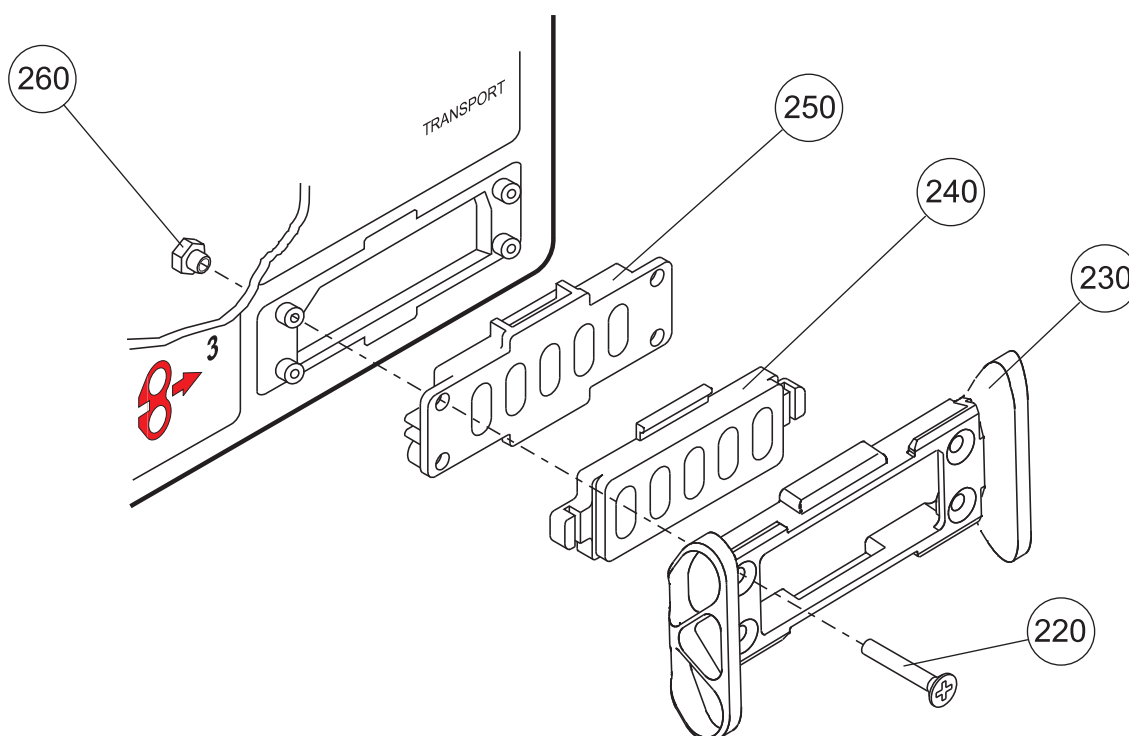

Figure 50 - Replacing the CPR Manifold Gasket
29.1 Carefully remove the screws (Fig 50, Item 220).
29.2 Remove the manifold outer (Fig 50, Item 230) and the manifold gasket (Fig 50, Item 240). The manifold inner (Fig 50, Item 250) will remain connected to the hoses inside the CPR Unit.
29.3 Install the new manifold gasket (Fig 50, Item 240) and the manifold outer (Fig 50, Item 230) to the manifold inner (Fig 50, Item 250).
29.4 Carefully install the screws (Fig 50, Item 220). Make sure the screws are correctly threaded into the brass inserts before applying pressure to tighten.